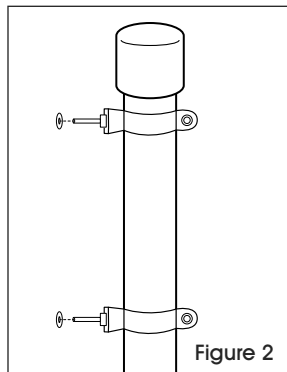

Figure 2
2. Position the two bracket assemblies onto the PVC post in the desired location to mount the sign. Fully tighten the brackets using a 7/16" wrench and screwdriver. Slip one washer onto each of the two protruding bolts of the bracket assembly. (See Figure 2)